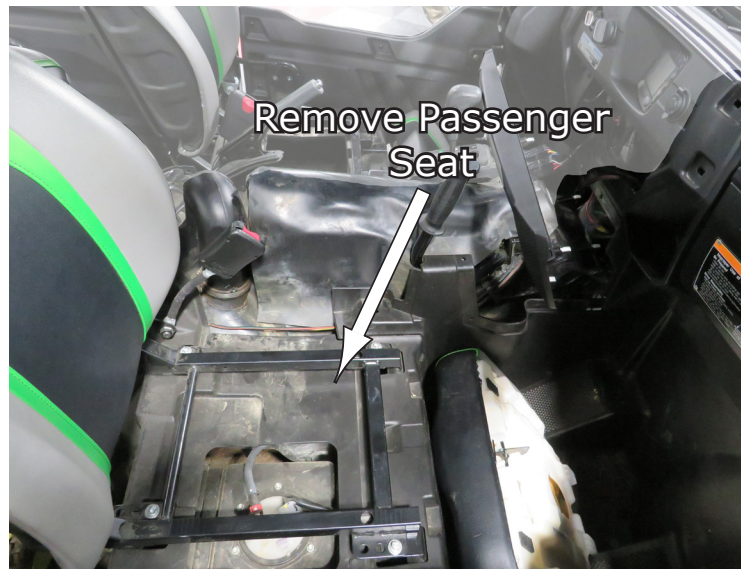

Fig.2
3. Next, remove the Passenger Side Seat as we will be routing the harness cables along that side of the vehicle. See **Fig.2**.